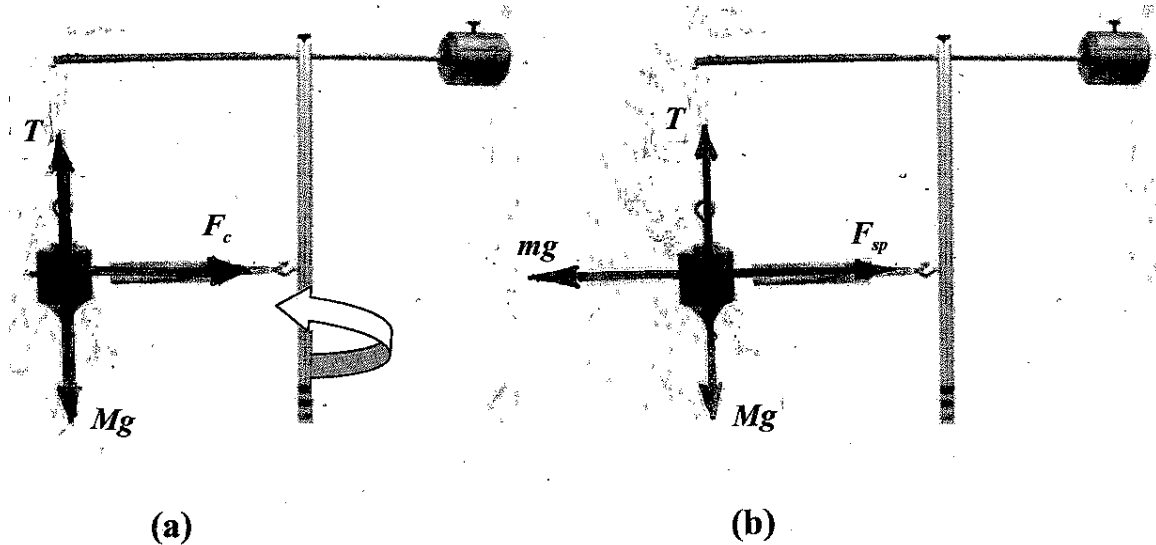

Fig. 2. Free-body diagrams for (a) dynamic and (b) static measurements.
mass M is attached to the shaft by a spring, whose tension can be varied by hooking the other end of the spring into one of a set of holes on a metal strip (8). There is a movable long vertical pointer (10) attached to the base to identify the radius of rotation of the mass M . The pointer has a resilient tine (a flat spring) on the upper end that projects upward toward the cone on the mass. The shaft can be rotated by spinning the knurling located near the bottom. The shaft is to be twirled just fast enough so that the tip on the mass M lines up and touches the tine on the pointer. The centripetal force is supplied by the spring (7) attached to the side of the rotating mass M . The free-body diagram for this case is given in Fig. 2(a).
The resultant of two forces, the weight of the mass M and the tension of the suspended string (5), equals zero if they are on the same vertical line, so that the only remaining force is the centripetal force F_c , which produces the acceleration of the mass M . This force can be measured in a static state, without rotation, as shown in Fig.2(b). The same value of the spring force F_{sp} , which equals to the centripetal force F_c , can be compared with a weight of a hanger on which weights can be loaded, and which is connected by a string through a pulley to the other side of the rotation mass M . The load mass is adjusted so that the pointer and the cone again line up. In this case the value of the force equals